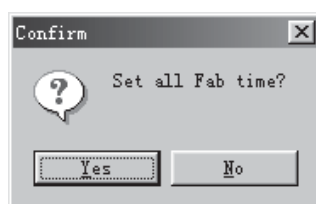

Fig. 6-2 Dialogue Frame of Setting FAB Time
1. Select and click the option System | Set FAB Time then a dialogue frame the system prompting to carry out the setting time operation will be displayed in the interface as in Fig. 6-2.